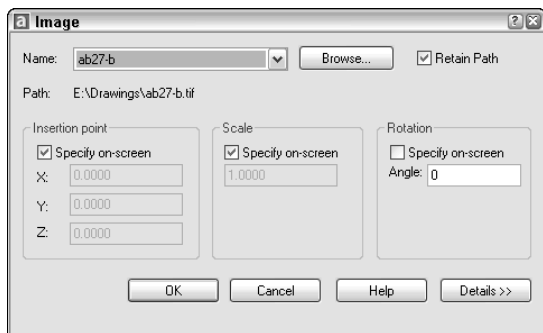

Figure 27-6: The Image dialog box
Locate the image you want to insert and choose Open. AutoCAD now opens the Image dialog box, shown in Figure 27-6, which lets you specify how to insert the image. You can specify the insertion point, scale, and rotation in the dialog box or on-screen. This dialog box is very similar to the Insert dialog box that you use when inserting drawings and blocks.
- ♦ **Attach** inserts an image, opening the Image dialog box, shown previously in Figure 27-6.